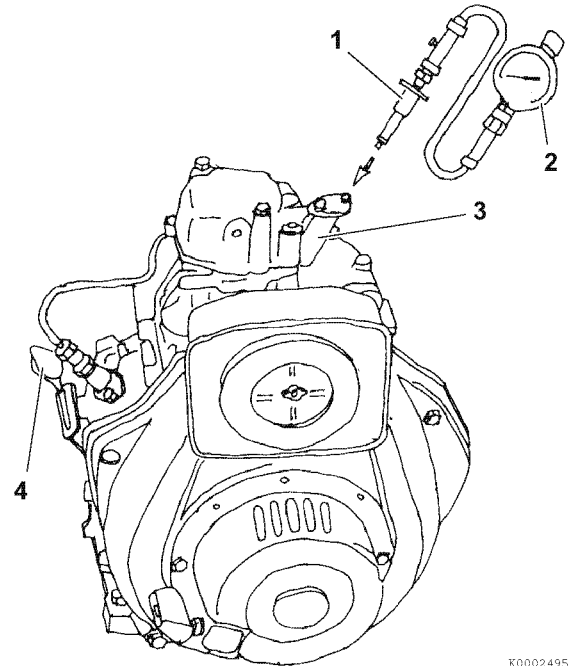

Figure 11-1
1. With the engine COLD (room temperature), remove the fuel injector (3, **Figure 11-1**) from the cylinder head. See *Removal of Fuel Injector* on page 7-21.
2. Crank the engine with the speed control (4, **Figure 11-1**) in the stop position (no injection state) 5 - 6 compression strokes before installing the compression gauge adapter.
3. Install a gasket at the tip end of the compression gauge adapter (1, **Figure 11-1**). Install the compression gauge (2, **Figure 11-1**) and the compression gauge adapter at the cylinder.